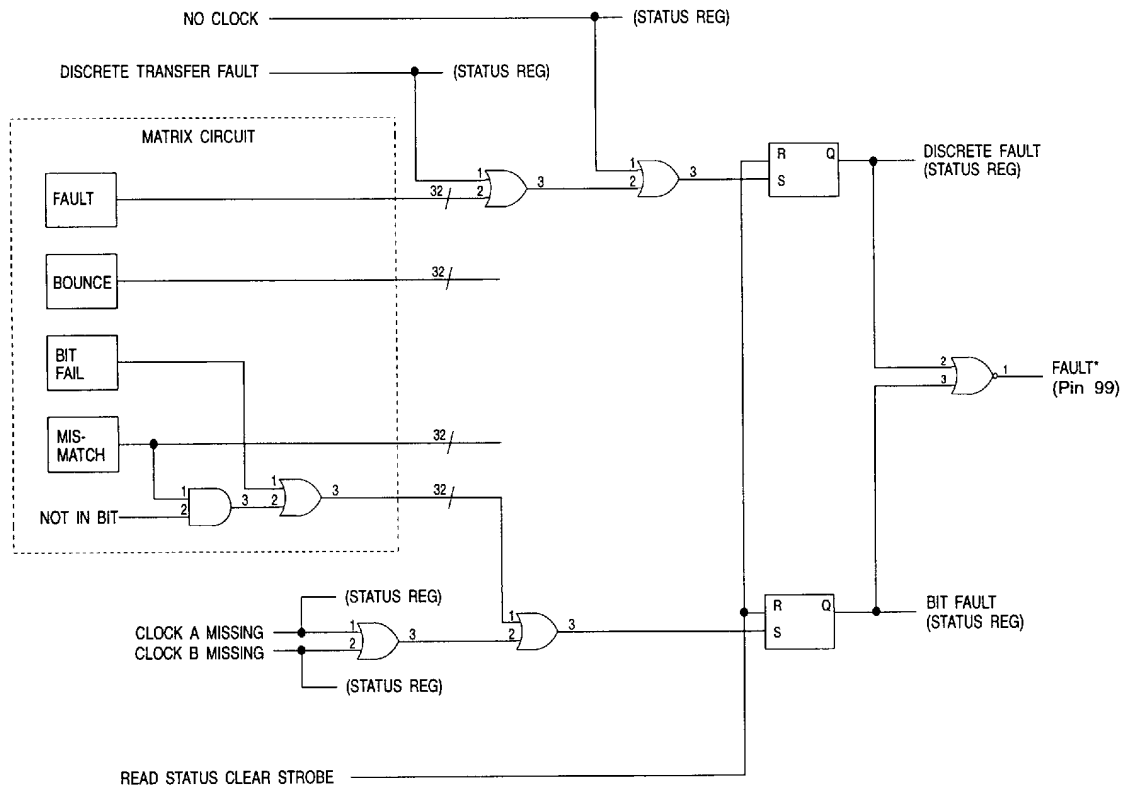

FIGURE 5. FAULT LOGIC TREE
**FAULT:** (Pin 99) The FAULT flag was designed to serve as an interrupt to the microprocessor when a HARD or SOFT error has been detected within the device (see BIT and FAULT notes on page 6). If this signal is asserted (logic 0) the Status Register should be read to determine the nature of the fault. Thereafter more detailed information can be found in the associated addressable registers. The Fault Flag will remain at a logic 0 for as long as the fault condition persists. FIGURE 5 illustrates the fault logic tree.